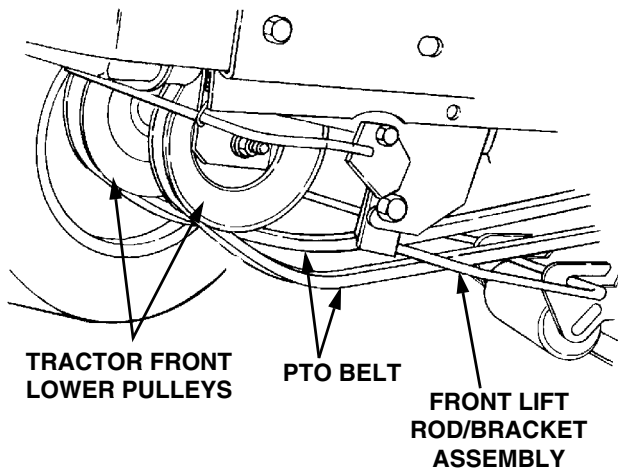

Figure 54
11. Pass the PTO belt downward, inside the tractor frame, until the belt is below the two tractor front lower pulleys. Twist the two sides of the PTO belt 1/4 turn inward to engage the narrow sides of the belt into the grooves of the two tractor front-lower pulleys (See Figure 54).